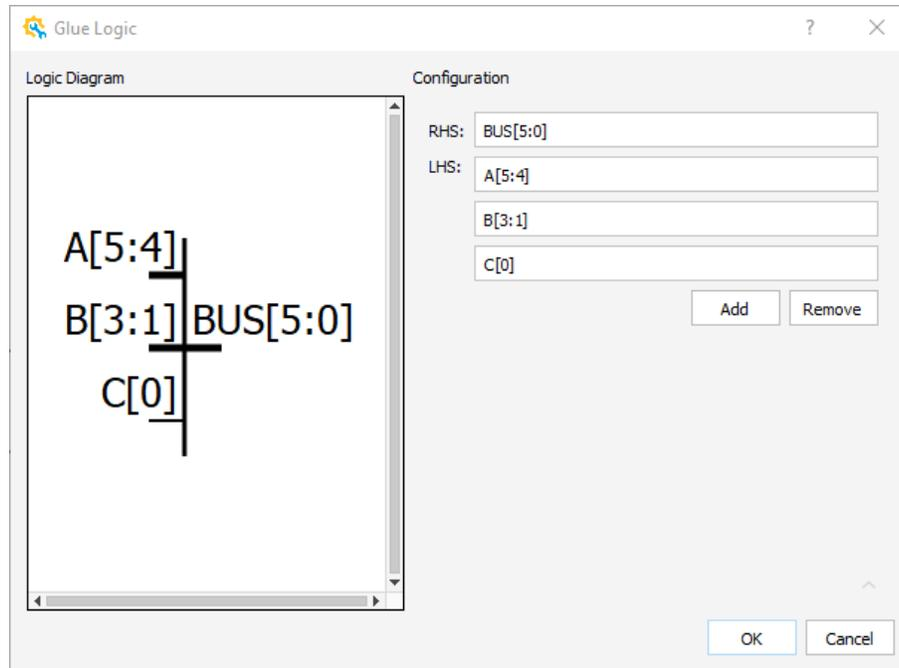

Figure 2.23. Glue Logic for Concat Module
1. From the IP Catalog, select the **concat** module. Double-click the concat module or drag and drop concat module to the Schematic view. A Glue Logic wizard (Figure 2.23) pops up.